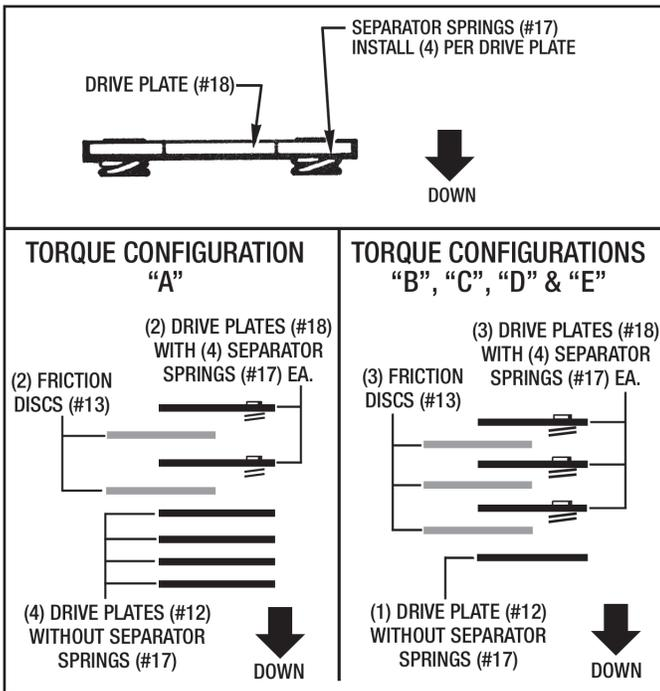

Figure 6 - Installing Separator Springs on Vertical Units
1. Install Separator Springs (#17) on Drive Plates (#18) as shown in Figure 6 on the next page. Simply snap the springs over the large end of the rivet. Install (4) springs per drive plate.